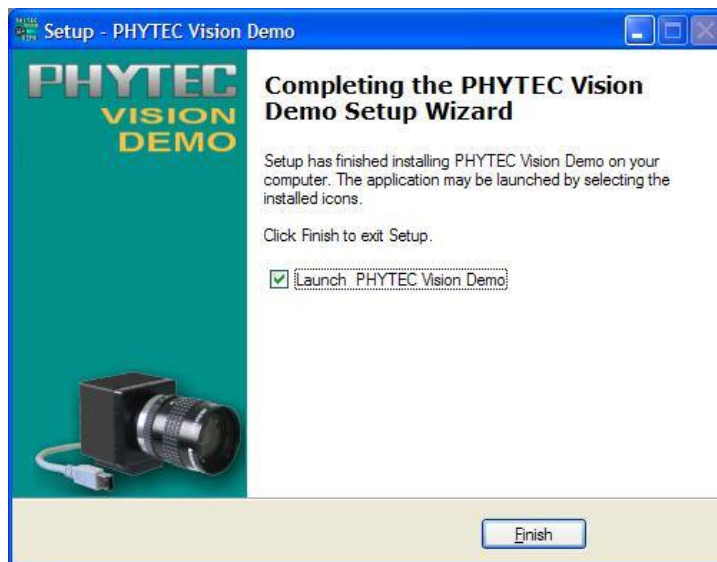

Figure 19: Installation Completed, Step 4
- After successfully completing the installation, finish the procedure with „Finish“, *Figure 19*.